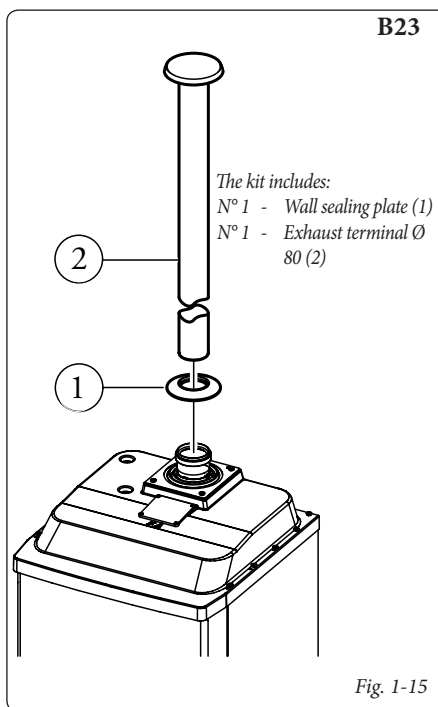

Fig. 1-15
Kit assembly (Fig. 1-15): install the Ø 80 terminal (2) on the central hole on the boiler up to stop, making sure that the wall sealing plates have been fitted (1). This will ensure the sealing efficiency of the kit components.